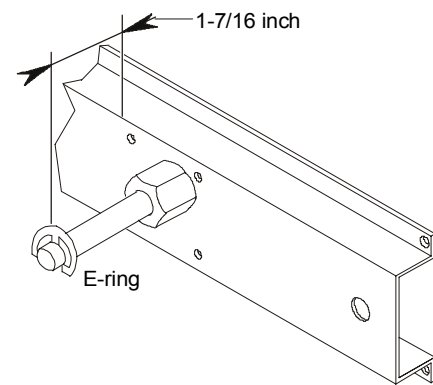

Figure 11: Mounting Distance, inches
3. Verify that the distance from the E-ring to the bracket is approximately 1-7/16 inches, as shown in Figure 11.